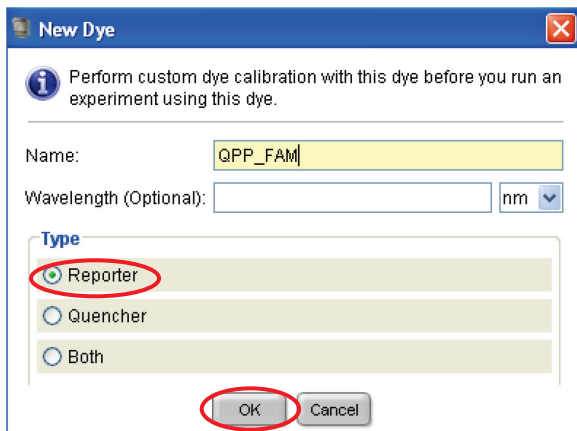

Figure 18. Dye naming.
16. Set names for the new custom dyes. To differentiate the new dyes from standard dyes, we recommend using the prefix QPP (for Quantiplex Pro). Enter **QPP_FAM** as a new dye name, select **Reporter** and click **OK** (Figure 18).